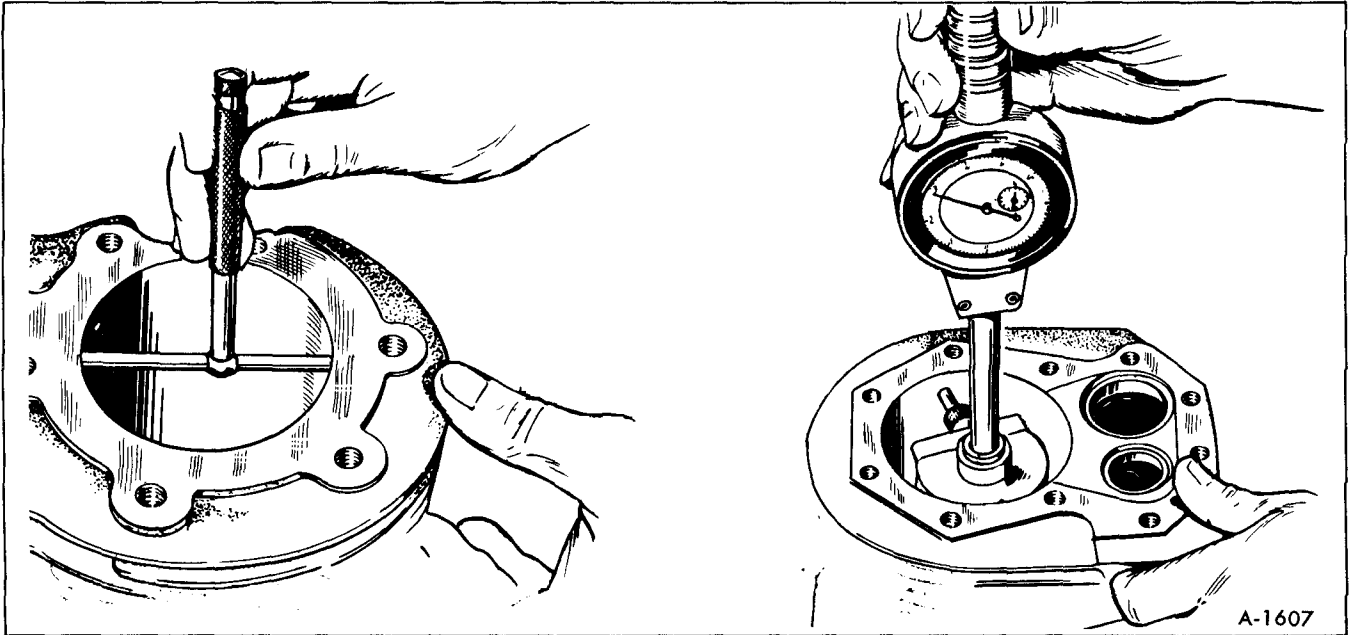

Figure 18—Methods of Measuring The Diameter of a Cylinder
3. Check the cylinder bore for taper, out of round and wear, with a cylinder bore gauge, telescope gauge or inside micrometer (figure 18). These measurements should be taken at four places – the top and bottom of piston ring travel.